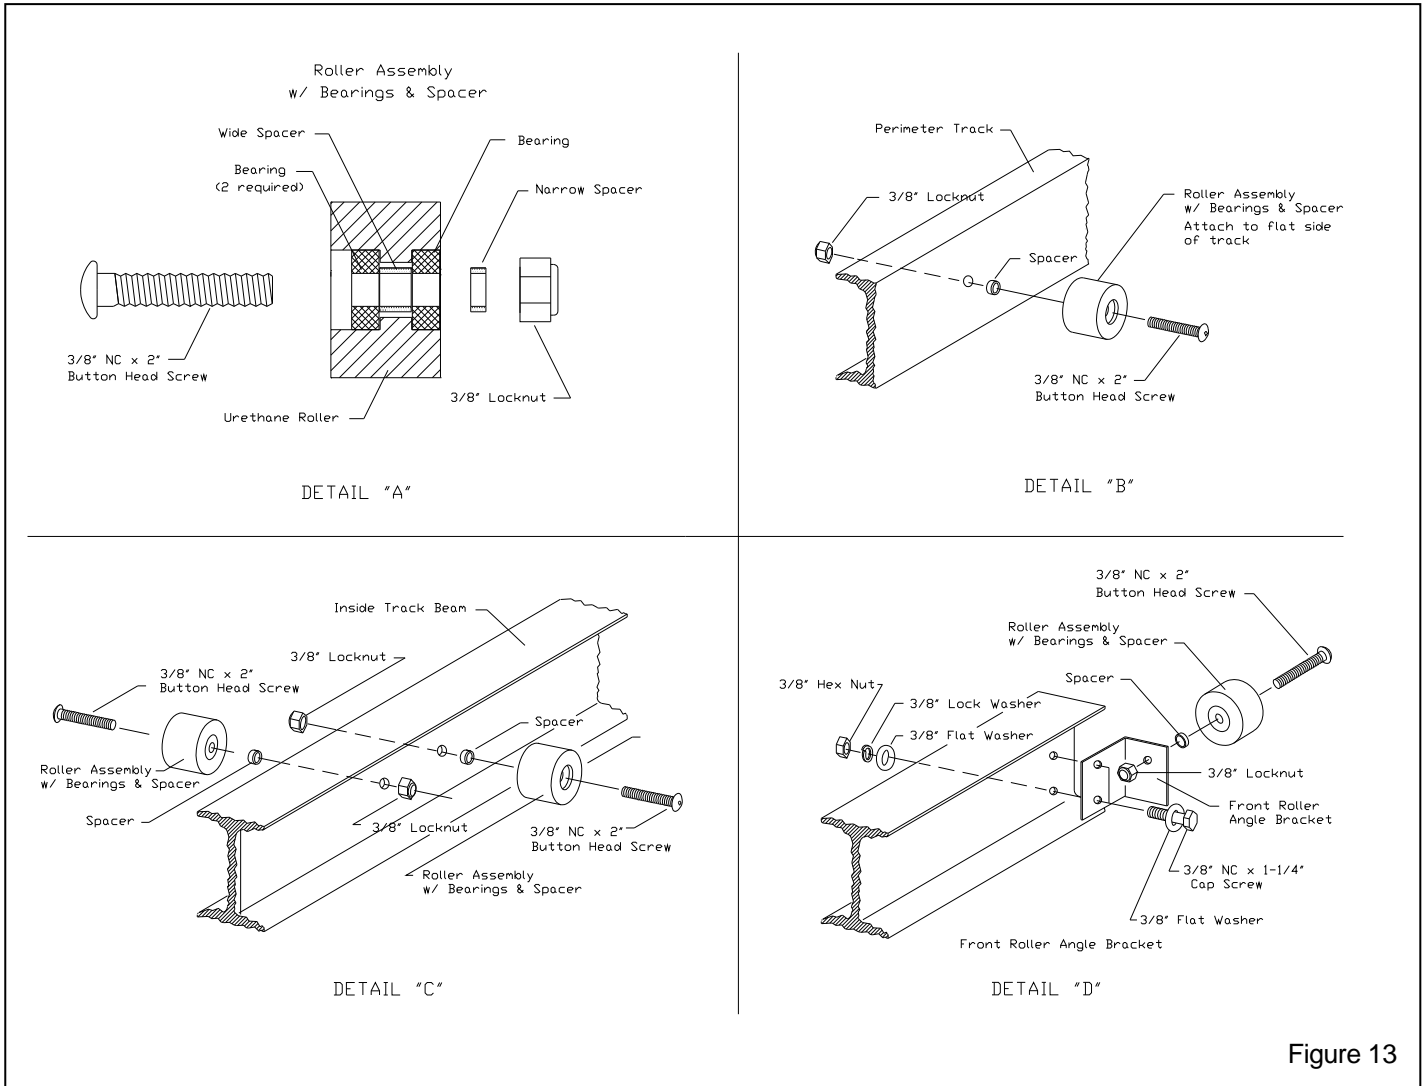

Figure 13
Note: The roller assemblies shown in detail "A" of Figure 13 are factory assembled. If they are taken apart, they must be reassembled as shown. When attaching the roller assemblies to the tracks, the button head screw must be inserted into the side with the recessed bearing. The flush side faces the track, with a spacer between the bearing and track.
2.6.1 Attach roller assemblies to the inside of the perimeter tracks as shown in Figure 13 detail "B". Two rollers are required on each drive section, including the cross drive, and on 72-inch, and 120-inch extensions. One roller is required on each 30-inch, 36-inch, and 60-inch extension.
2.6.2 Attach roller assemblies hand tight to both sides of the inside tracks as shown in Figure 13 detail "C". Four rollers are required on each drive section, and 120-inch extension. Two rollers are required on each 30-inch, and 60-inch extension. When rollers are in place on the inside beams, one will be slightly offset from the other. It is not necessary to mount rollers in each segment directly opposite one another, but roller mounting should be done uniformly. Aligning the rollers may mean moving some of the perimeter rollers.
2.6.3 Attach the front roller angle brackets to the inside tracks as shown in Figure 13 detail "D".